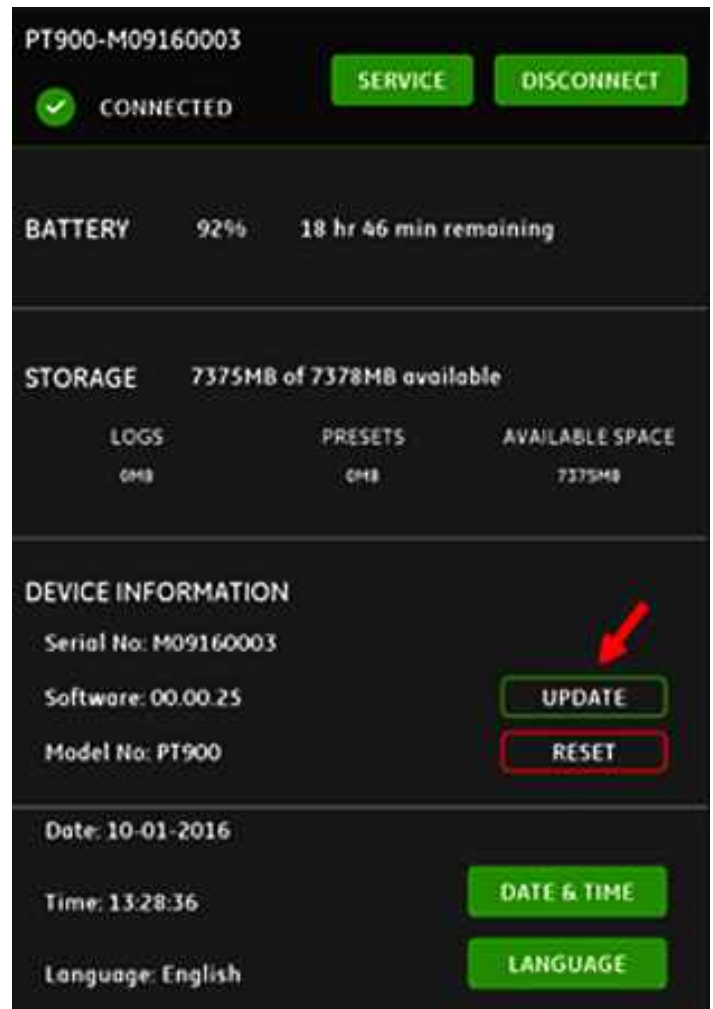

Figure 121: UPDATE button in TRANSMITTER menu
4. In the *app transmitter* menu, click the *update* button (see Figure 121 below) to start the update.